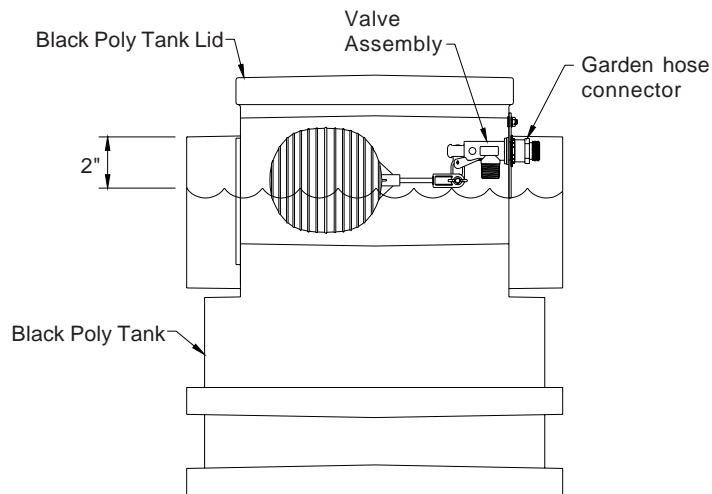

Figure 20E
- 5) Attach the float valve assembly to the tank using washer, nut and garden hose adapter. **See Figure 20E.** The ball of the float valve may need some adjustment to attain proper water level in tank. Proper water level should be approximately 2" below the top of the 8" pipe or level with the opening in the overflow spout.